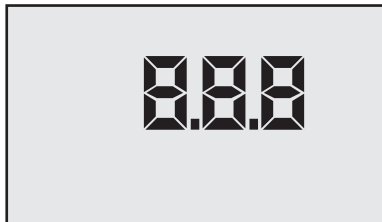

Figure 32
2. Press  key until three numbers are displayed as shown in Figure 32.